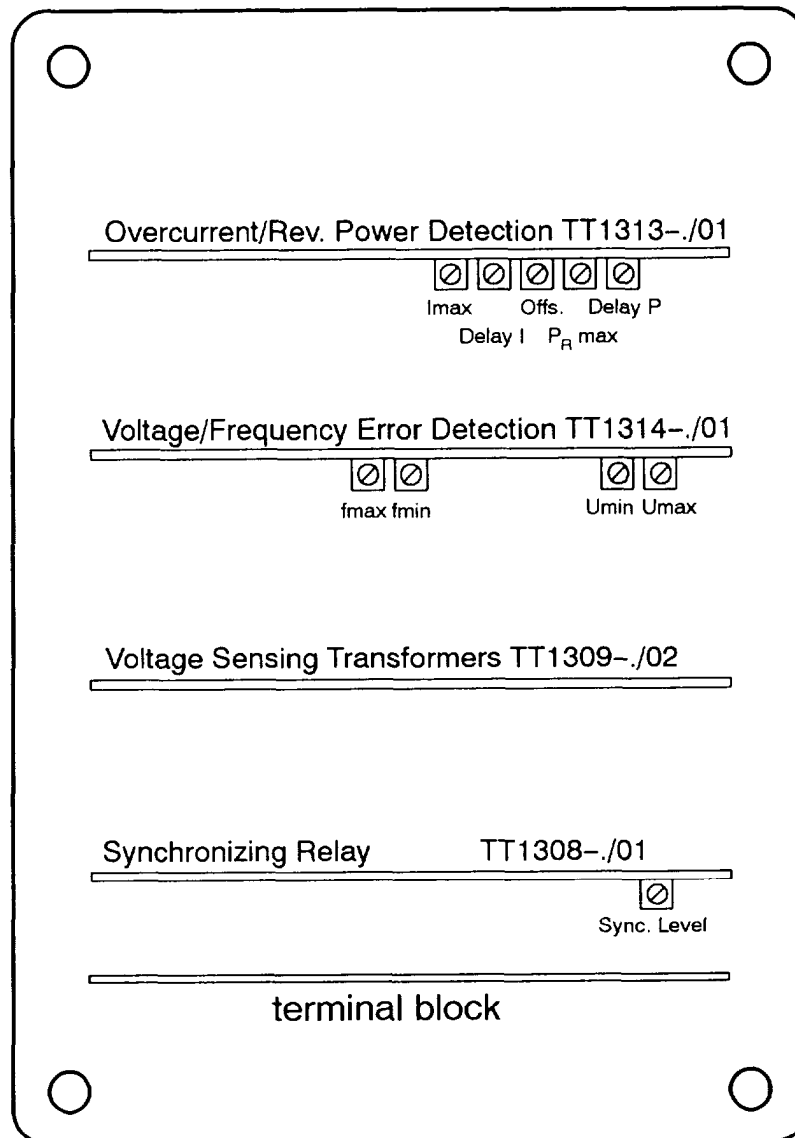

Figure 5-30 Voltage Regulator N2, Location of Circuit Boards and Potentiometers.
- Preset potentiometers (figure 5-30).
Turn fmax potentiometer (figure 5-30) counterclockwise until UNDER/OVER FREQUENCY (H8) indicator lights up.